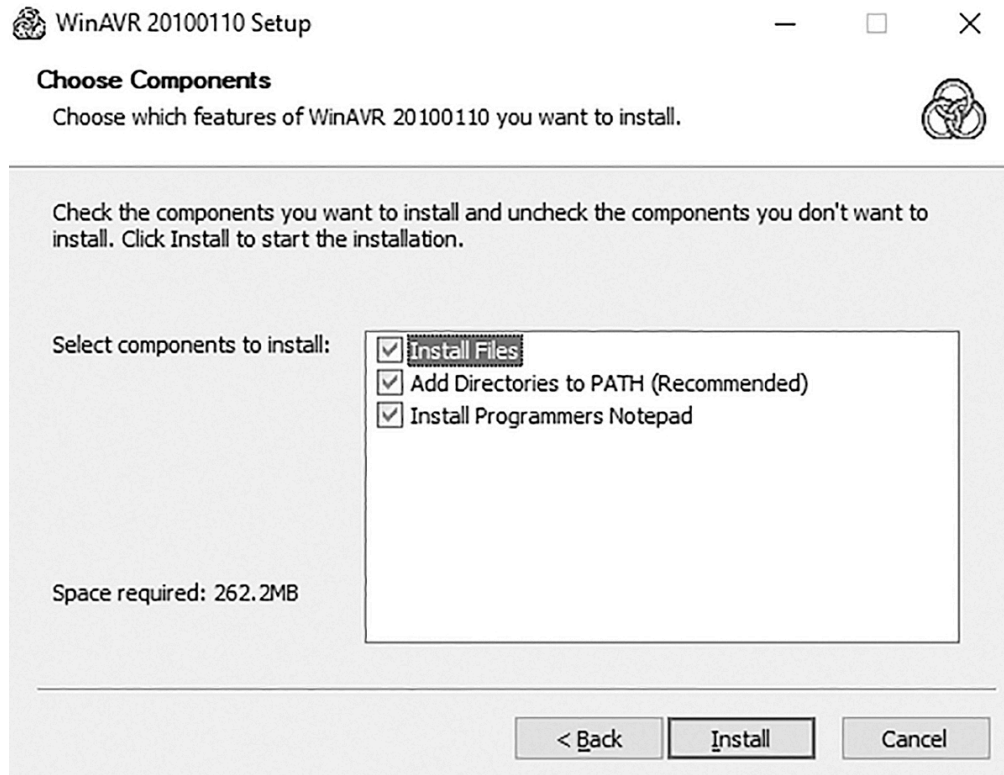

Figure 1-13: Selecting the components to install
6. The next window that appears, shown in Figure 1-13, should ask you which components to install. Check all three boxes and click **Install**.